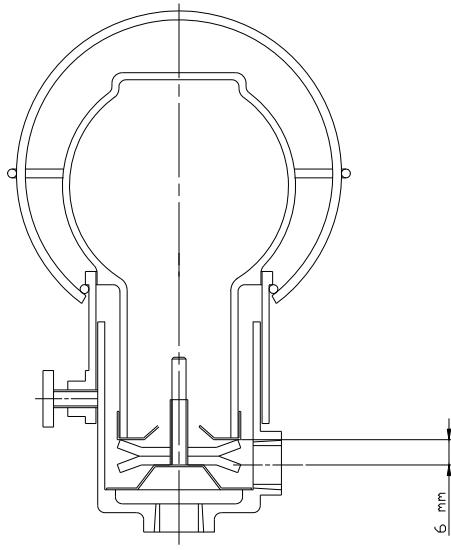

Figure 5.3
- b) Release thumb screw and remove bottle. Establish a measurement from the centre line of the oiler connection in bearing housing to the upper cross arm of 6 mm (0.24 in.); this can be obtained by completely screwing down the lower arm as illustrated on figure 5.3.